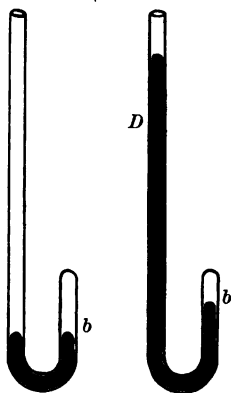

FIG. 54. — As the pressure on the gas increases, its volume decreases.
89. The Relation between Pressure and Volume. It was long known that as the pressure of a gas increases, that is, as it becomes compressed, its volume decreases, but Robert Boyle was the first to determine the exact relation between the volume and the pressure of a gas. He did this by means of the following simple experiment (Fig. 54). Let mercury be poured in a U-shaped tube until the level of the mercury in the closed end of the tube is the same as the level of the mercury in the open end. The mercury just balances itself, and hence the air column in the closed end must be balanced by the atmospheric pressure on the open end; the amount of the atmospheric pressure can be easily determined by reading the barometer. If the atmospheric pressure as registered by the barometer is 30 inches or x inches, pour into the long arm enough mercury to make the column D equal to 30 or x inches. The air column b is now under a pressure equal to that of two atmospheres, one atmosphere of pressure being due to mercury, the other atmosphere of pressure being due to the weight of the atmosphere itself. If now the air column in the closed end is measured, its volume will be only one half of its former volume. By doubling the pres-